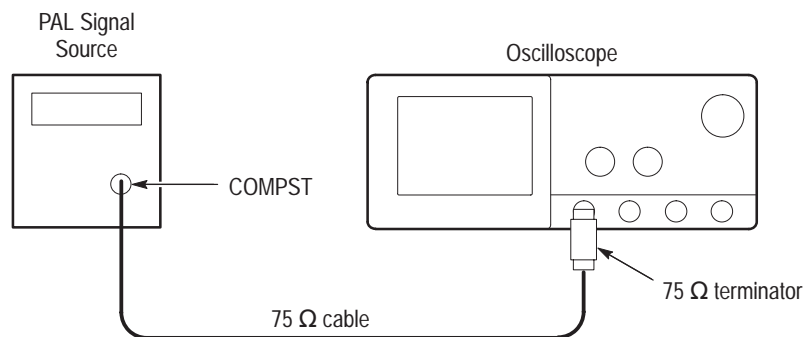

Figure 4–25: Jitter test hookup
- a. Set up equipment for Jitter Test. See Figure 4–25.
- b. CHECK that the oscilloscope lights up its front panel **TRIG'D** LED and it displays the waveform on screen. See Figure 4–26.